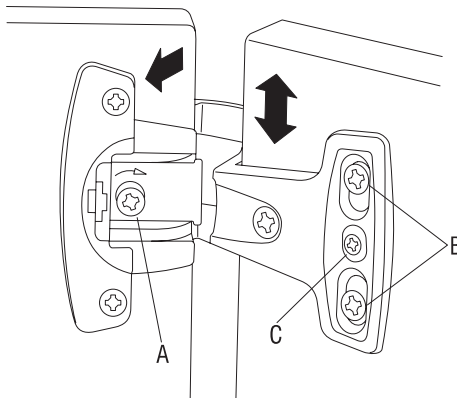

Figure 9
1. For overlay adjustment, turn eccentric screw (A). The overlay can be reduced a maximum of -2 mm (Figure 9).
2. For Height adjustment (+/- 2 mm) first unscrew fixing screw (B). Detach center stop (C) with screwdriver, adjust the height of the door and tighten fixing screws (B) (Figure 9).